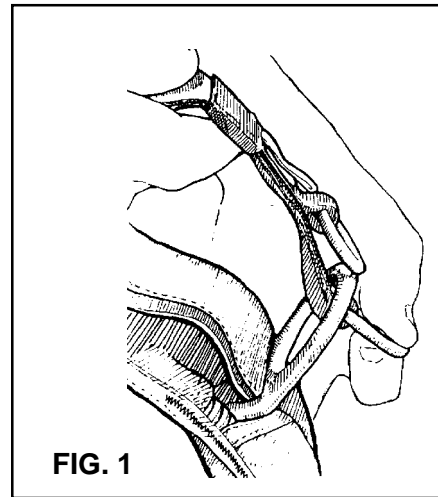

FIG. 1
2. With the rings of the riser facing toward the floor, pass the ring on the end of the riser through the large harness ring from above. Fold it back toward the canopy and risers (**FIG 1**).